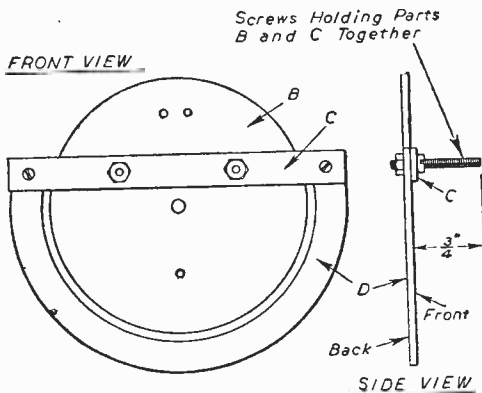

Fig. 7.—The method of mounting parts B, C and D together.
5. The parts B, C and D may now be fitted together as shown in Fig. 7. It will be seen that the two outer 6 B.A. screws holding C to D are short bolts, whereas the two inner screws not only have their heads on the inside of plate B, but also have their threaded portions projecting some considerable distance outwards. These screws are used to hold the cord drum for driving the tuning condenser (which will be described later), and their threaded portions should extend at least 3/4 in. from the surface of part C. The semi-circular slit between parts B and D must have a regular width along all its length. It should accommodate the shank of an 8 B.A. screw, which should be free to slide over the entire length of the slit. If the screw fits tightly at any points, any slight inaccuracies in the filing may now be carefully cleaned up. There will also be some slight degree of adjustment at the 6 B.A. mounting bolts which can be utilised to obtain satisfactory alignment of the various parts. When this is completed all the 6 B.A. bolts may be made really tight and will not require loosening again. (It will be seen that the difficult-to-make semi-circular slit of Fig. 2, has been made by using three separate pieces of material.)